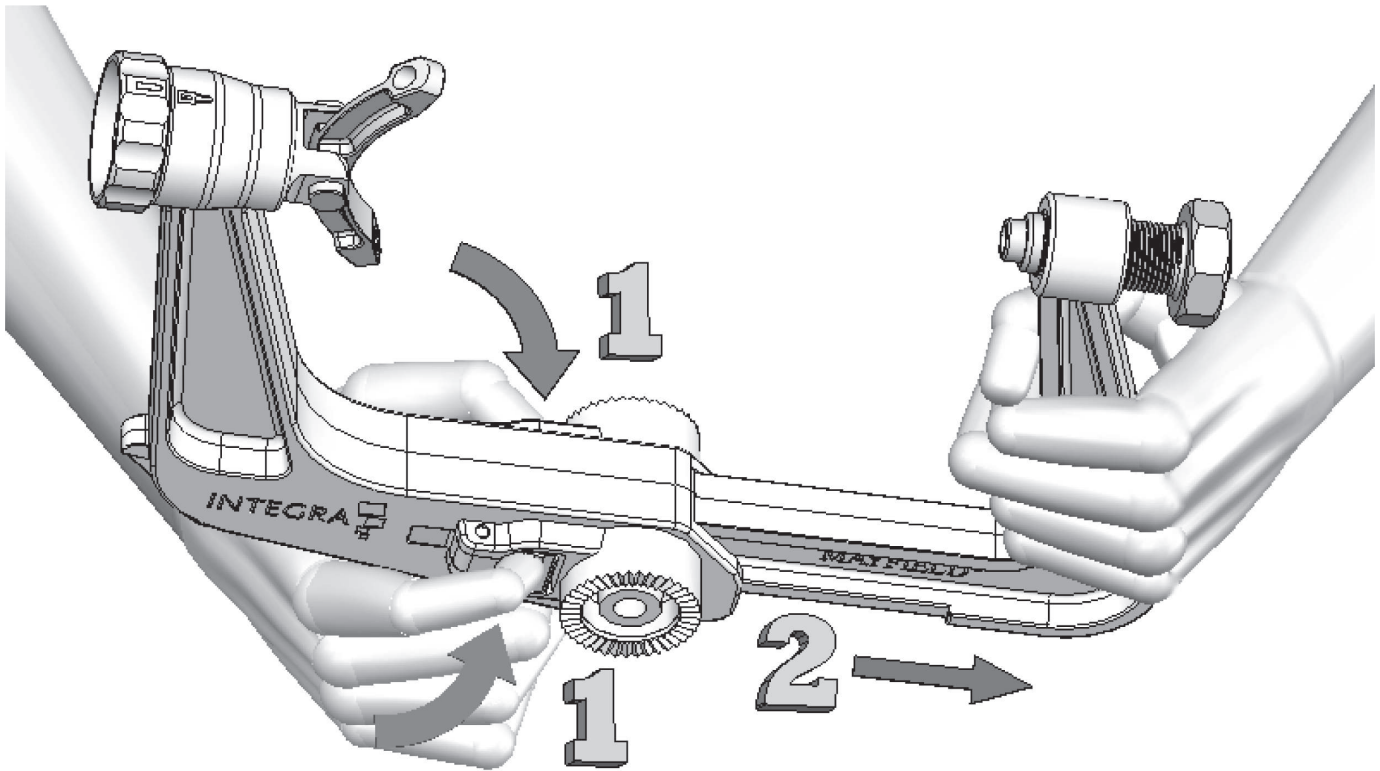

Figure 5 Disengaging Ratchet Extension
3. Depress both of the Release Buttons on the body-portion of the Skull Clamp (See Figure 5 below) to disengage the Ratchet Extension and slide the two halves of the clamp apart to allow placement around the patient's head.